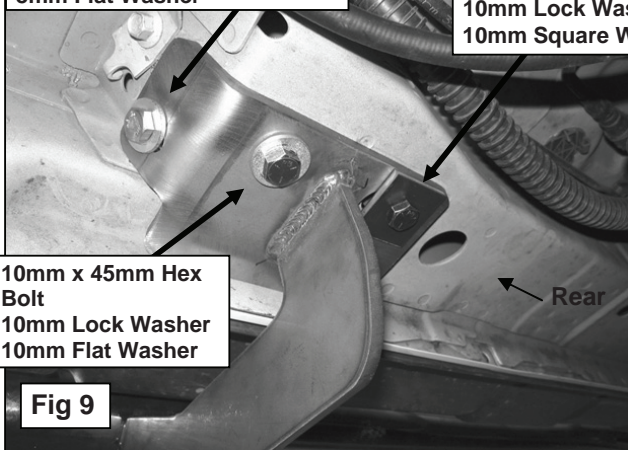

Fig 9
8. Position the driver side rear Mounting Bracket up to the vehicle. Insert (1) M10 x 45mm Hex Bolt with (1) 10mm Flat Washer and (1) M10 Lock Washer through the Mounting Bracket, small round hole and into the Double Nut Plate. Insert (1) M10 x 45mm Hex Head Bolt, (1) 10mm Square Washer and (1) M10 Lock Washer through the Mounting Bracket, large oval hole and into remaining nut in the Double Nut Plate, **(Figure 9)**. Do not tighten at this time.